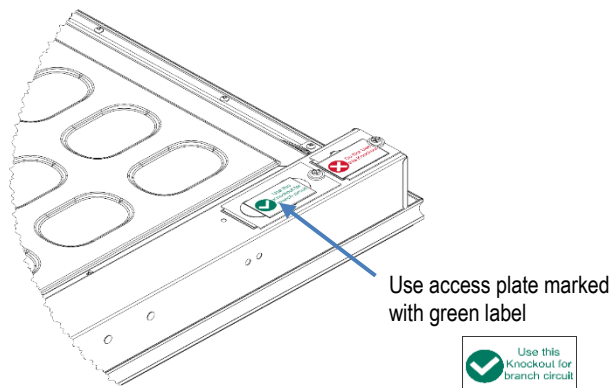

FIG 3: ACCESS PLATE
1. Using a screwdriver (not supplied), remove access plate as shown in Figures 3 & 4, with grid power OFF make electrical connections from supply and properly ground as local codes dictate. See Figure 5.